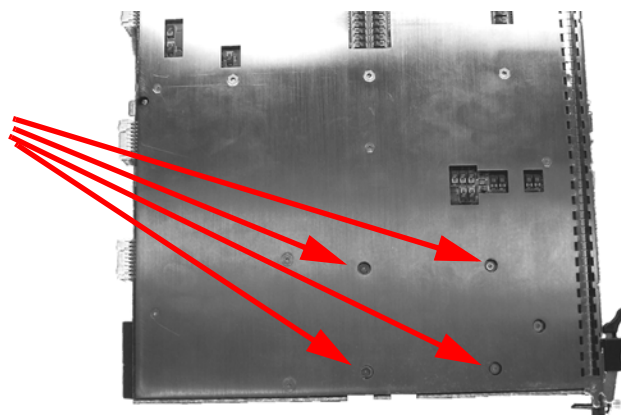

Figure 38 Removing the SSD Mounting Screws
- 4 Carefully, turn the controller over. Remove the four SSD screws as indicated in Figure 38. Be very careful as removing these screws releases the SSD.